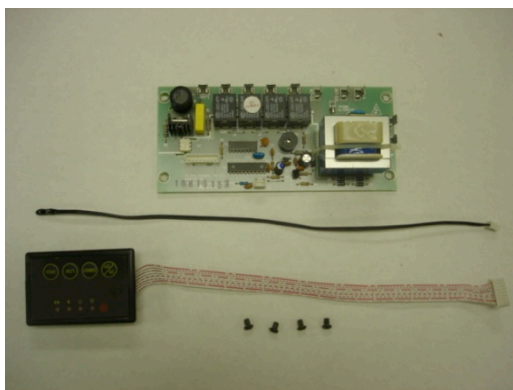

Figure 1, old PCB, Touch Keypad and standoffs
- 2) Remove the (12) leads and (1) Touch Keypad cable from the PCB.
- 3) Remove the (4) mounting fasteners and lift the PCB from the insert. Keep the (4) mounting fasteners, they will be reused. **Refer to Figure 1.**